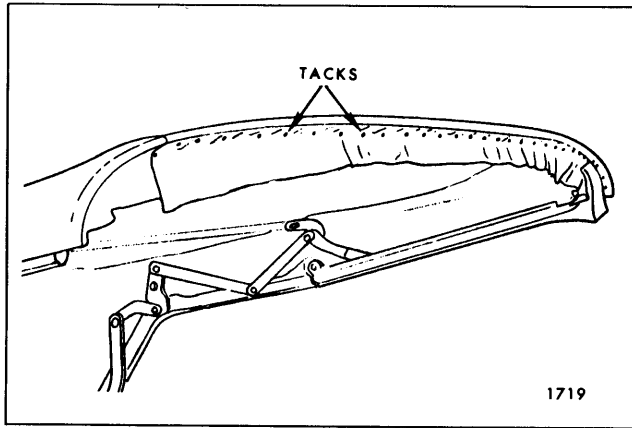

Fig. 13-40—Installation Of Top Material To Front Roof Rail
29. Unlock top from windshield header and apply nitrile cement or neoprene-type weatherstrip adhesive to tacking area of front roof rail and corresponding surface of top material. Pull top trim material slightly forward so that pencil marks are on underside of front edge of front roof rail. Fasten top trim to cemented area and stay tack trim to rail (Fig. 13-40).